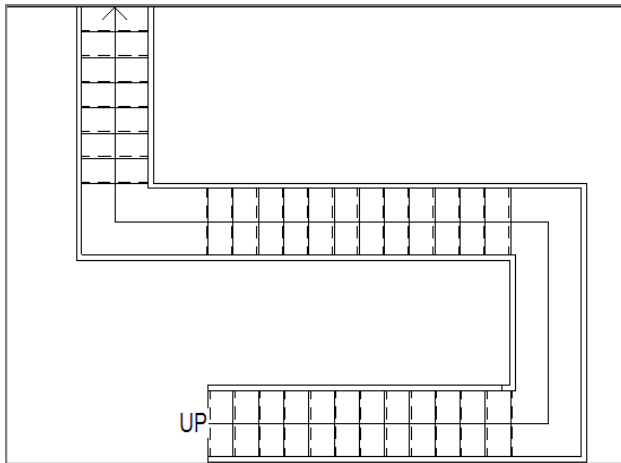

FIGURE 10.66: The stairs as shown in plan
8. Click Finish Sketch. Your stairs should look like Figure 10.66.